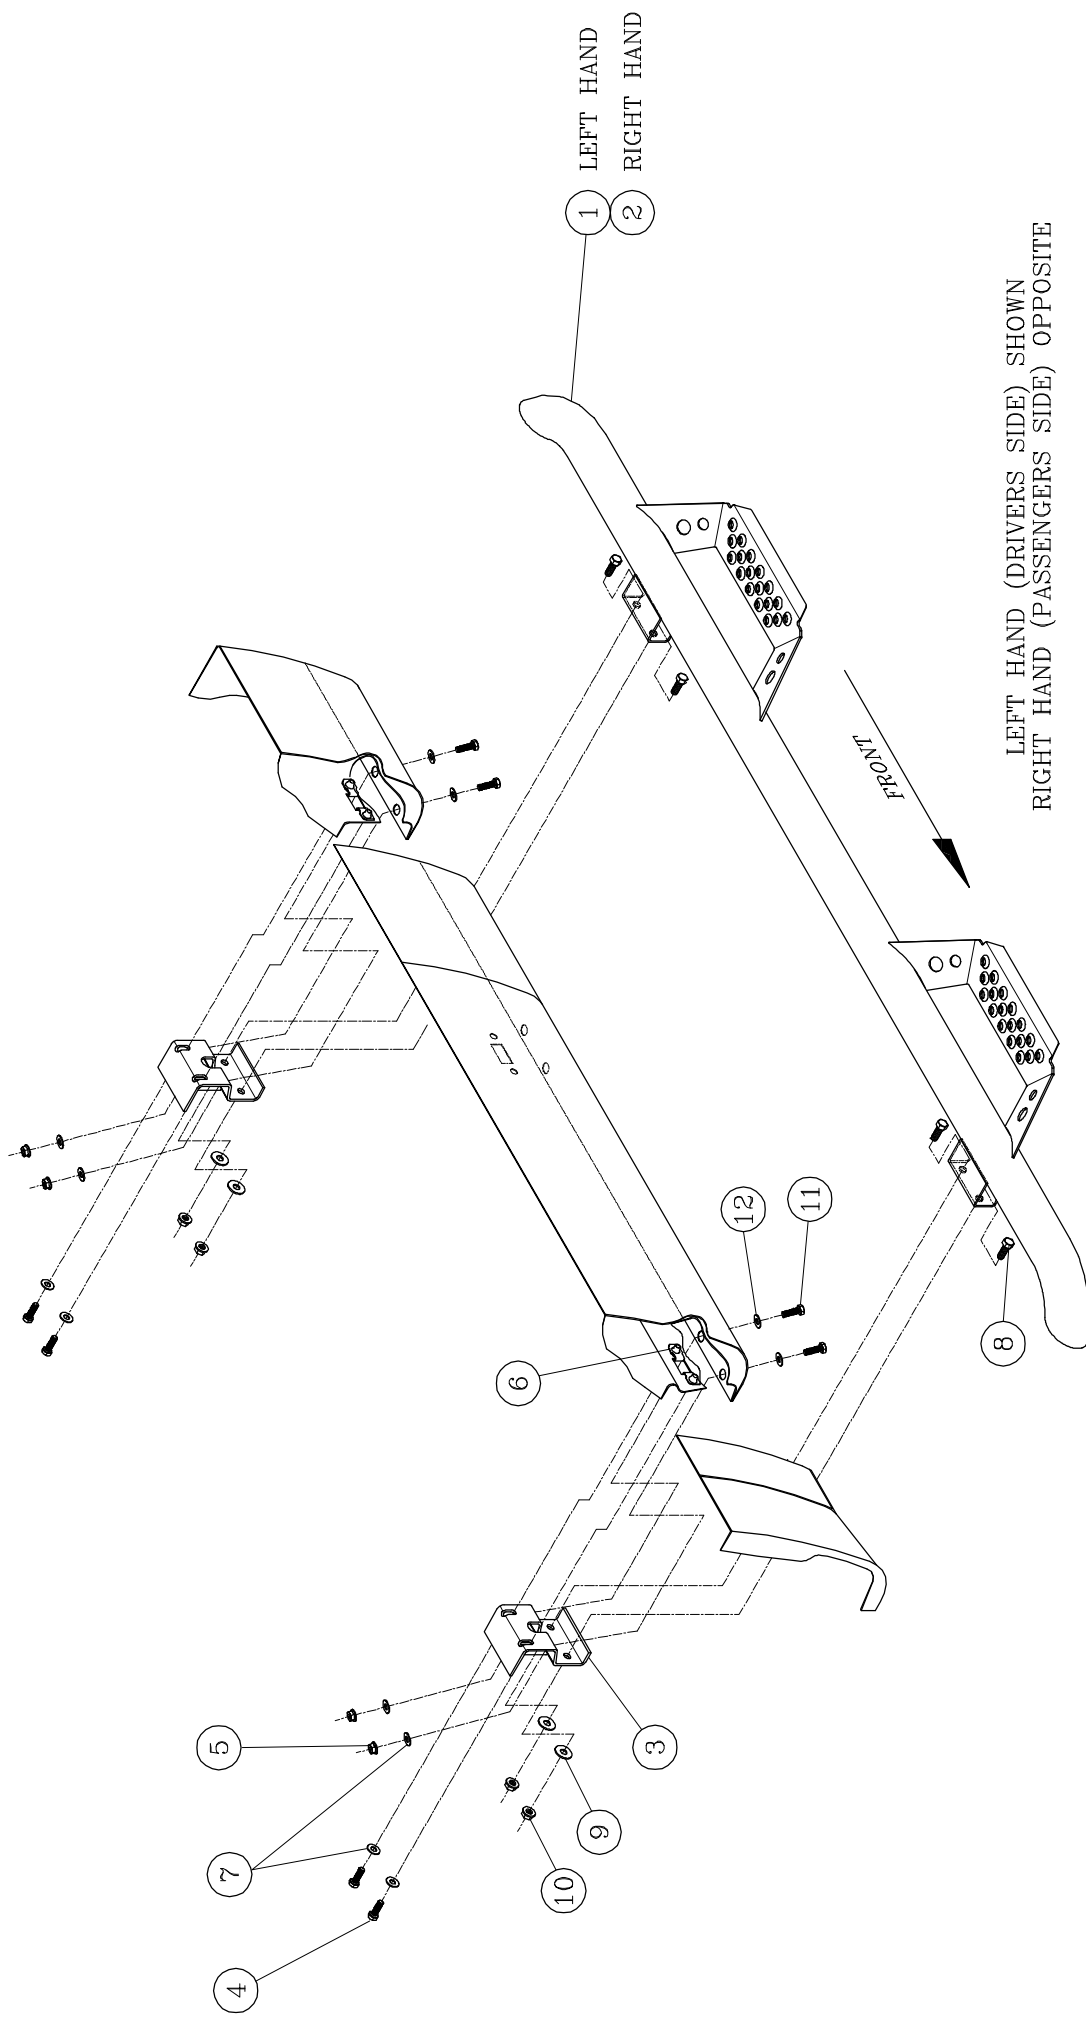

FIG.1
- 2.1. LAY NERF BAR ASSEMBLIES (ITEM #1, & 2) ON FLAT SURFACE, AND ATTACH THE MOUNTING BRACKETS (ITEMS #3) TO EACH NERF BAR IN THE LOCATIONS AS SHOWN IN (FIG. 1), USING THE SUPPLIED 3/8-16 X 1 SCREW, 3/8" FLAT WASHER, & 3/8-16 SERRATED FLANGE NUT, (ITEMS #8, 9, & 10). LEAVE THESE FASTENERS FINGER TIGHT AT THIS TIME.